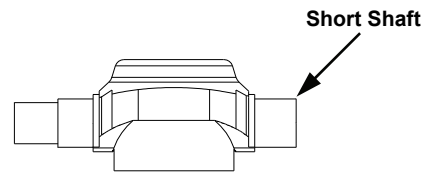

Figure 24. Swashplate/Pump Block Assembly
17. *Care must be taken to prevent the scaring or scratching of the center section sealing face during this step.* Insert the short shaft side of the swashplate/pump block assembly (Fig. 24) into the housing while simultaneously compressing the pistons in the block. NOTE: To assist in the installation of these components, insert the assembly until  $\frac{3}{4}$  of the pump block is covered by the center section. Then slightly angle the trunnion shaft end away while pressing the short swashplate shaft into its pocket.